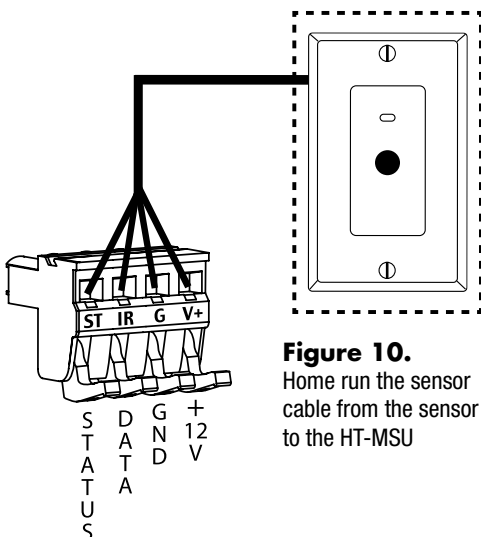

Figure 10. Home run the sensor cable from the sensor to the HT-MSU
6) **IR Sensor Wire:** The HT-MSU has an infrared (IR) sensor input for connection to any type of Niles IR sensor. Niles IR sensors utilize 4-conductor wiring and have been designed for use with CAT-5 cable (4-pair twisted) (**Figure 10**).